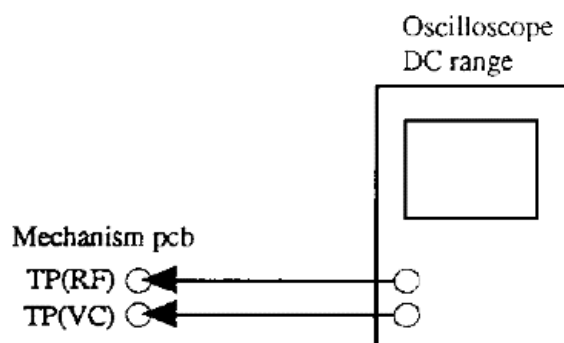

FIGURE 28-13 Connect the scope to TP-RF and TP-VC for RF adjustment in a CD player.
- 1 Connect scope to test points RF and VC (Fig. 28-13).